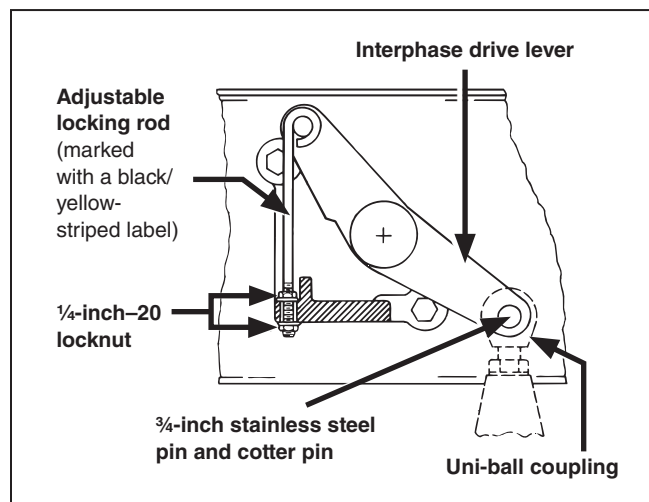

Figure 14. Attaching the Uni-ball coupling to the interphase drive lever.
- STEP 1.** Attach the uni-ball coupling on the operator connecting link to the interphase drive lever in the high-speed base using the $\frac{3}{4}$ -inch stainless steel pin and cotter pin retained from Step 1 on page 13. See Figure 14. An adjustable locking rod (marked with a black/yellow-striped label) is furnished factory-connected to the interphase drive lever. Turn the associated $\frac{1}{4}$ -20-inch locknuts as required to raise or lower the interphase drive lever enough to facilitate insertion of the stainless steel pin.
- STEP 2.** After the pin is installed, remove the lower $\frac{1}{4}$ -20-inch locknut retaining the adjustable locking rod, and remove and discard the adjustable locking rod and locknuts. See Figure 14.